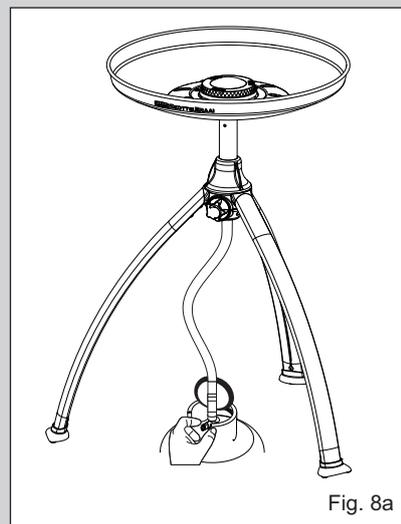

Fig. 8a
- The Control valve is closed by turning the control knob (K) clockwise to its "OFF" position and opened by pushing and turning anti-clockwise.
- Adjust the flame intensity to the desired level by turning the Control knob (K) clockwise to decrease the flame and anti-clockwise to increase it (See Fig.8a & b).
- After use, first close the valve on the gas container (where applicable). When the flame has extinguished, close the valve on the appliance by turning the Control Knob (K) fully clockwise.
Lighting up using a match or BBQ lighter (See Fig. 8a and 8b)